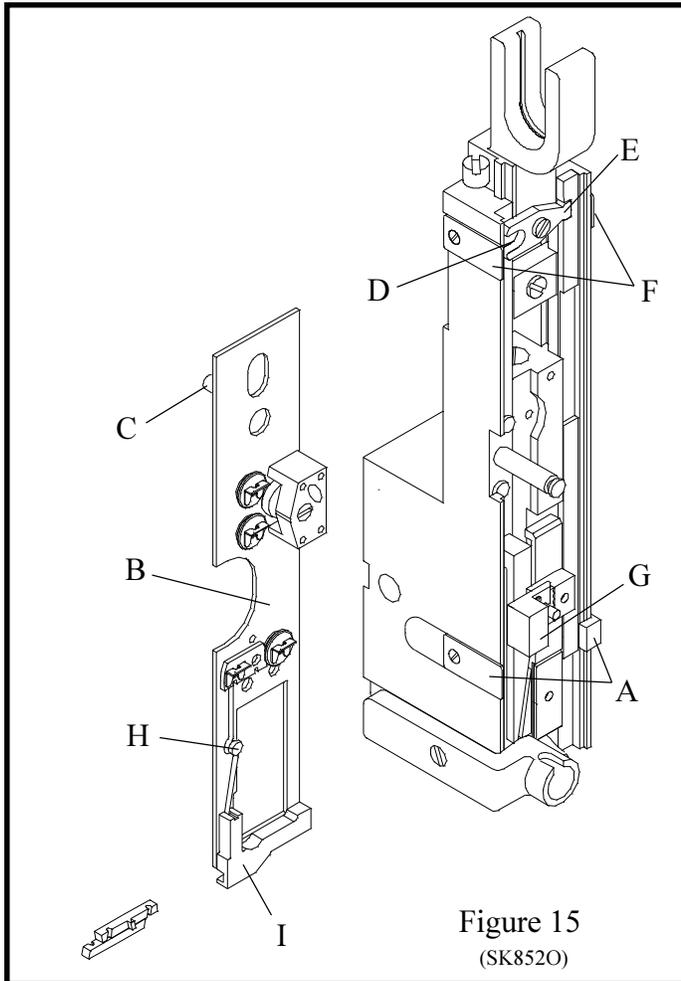

Figure 15
## NOTE: (Figure 15)
7. Loosen the two face plate retaining clips (Index A, Figure 15) and rotate them downward.